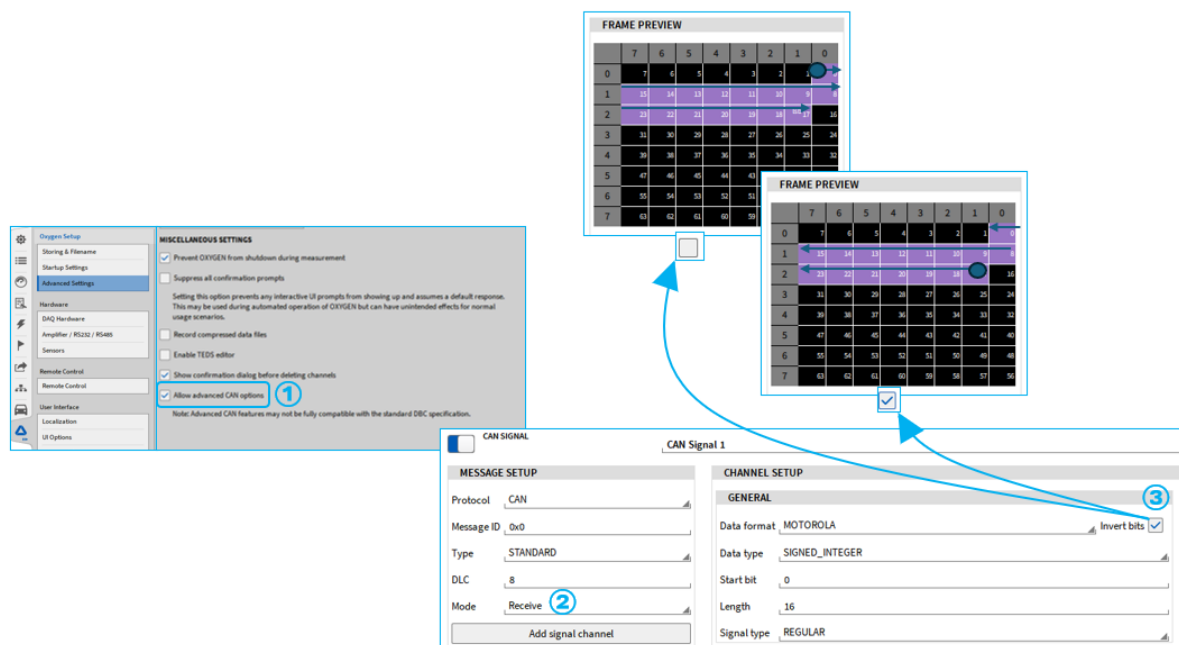

Fig. 7.209: CAN invert bit order
For receiving CAN-Messages from devices it is also possible to invert the bit order of the CAN signals. This is necessary if the device transmits the CAN signals in a different bit order than the standard. The bit order can be inverted by activating the *Invert bit order* option in the CAN signal setup (see ③ in Fig. 7.209).
Before this function can be used, the CAN message must be set to *Receive* mode (see ② in Fig. 7.209). Additionally it is necessary to activate the functionality in the advanced OXYGEN setting by activating the respective checkbox (see ① in Fig. 7.209). The bit order of the CAN signals can be inverted for both Intel and Motorola data format.